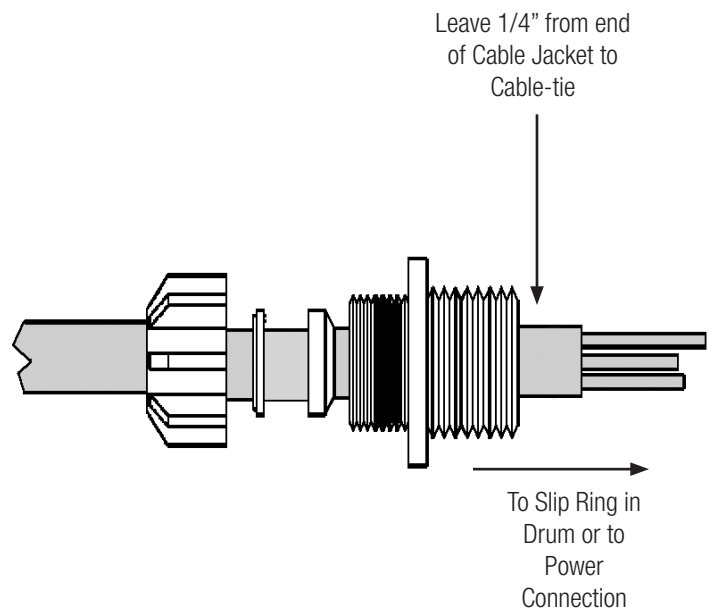

Figure 3 Watertight
2.5.4 Feed cable through the watertight and the drum, so that 1" of the jacket is through the watertight. Secure a cable-tie 1/4" from the end of the jacket and tighten watertight. Replace inner flange gasket if damaged. (See Fig. 3, Page 9).